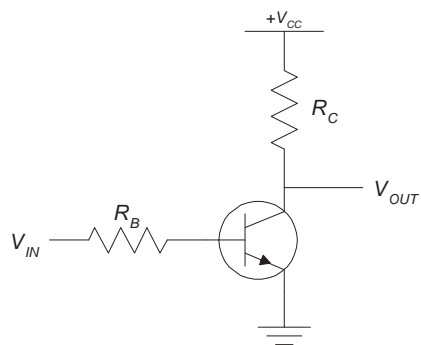

Figure 11: NOT gate using a bipolar junction transistor.
- (5.3) An inverter using a BJT is shown in Fig. 11.